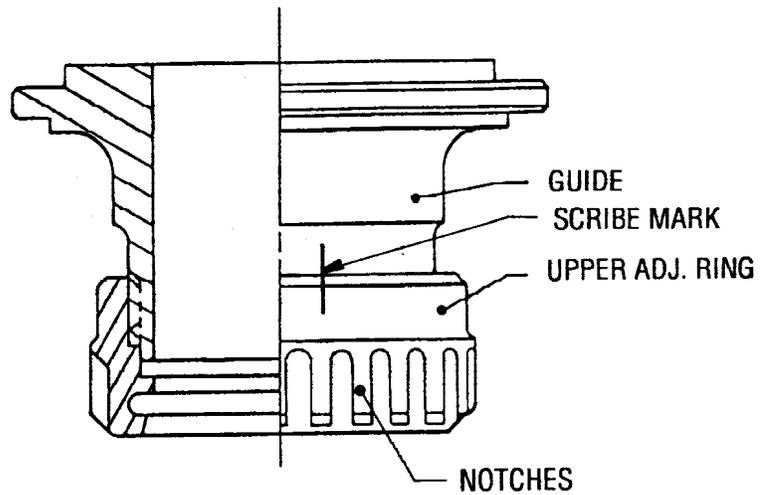

FIGURE 15
13. Remove the upper adjusting ring pin from the valve base. Remove the upper adjusting ring and guide assembly from the base by lifting straight up on the guide being careful not to disturb the upper adjusting ring adjustment. **Mark the radial position of the upper ring notches** relative to the guide by marking or scribing axially on the guide, then making a corresponding mark axially on the upper adjusting ring (see Figure 15, below). Recording Dimensions B and C and marking of the upper adjusting ring and guide will aid in setting the adjusting ring in exactly the same position it was in prior to disassembly.